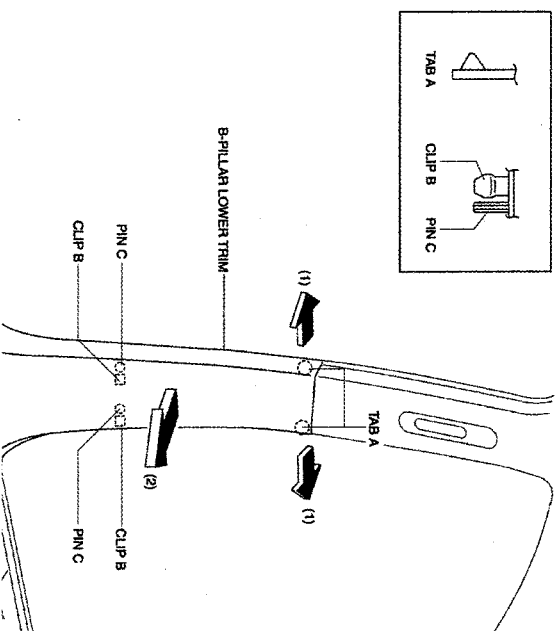

FIGURE 33
- 2.) PULL THE B-PILLAR LOWER TRIM IN THE DIRECTION OF ARROW (1) AND (2). DETACH TABS A, CLIP B AND PINS C. (SEE FIGURE 33)
- 3.) REMOVE THE B-PILLAR LOWER TRIM. (SEE FIGURE 33)
- 2.) REMOVE THE BOLT THEN REMOVE THE FRONT SEAT BELT FROM B-PILLAR. (SEE FIGURE 33)